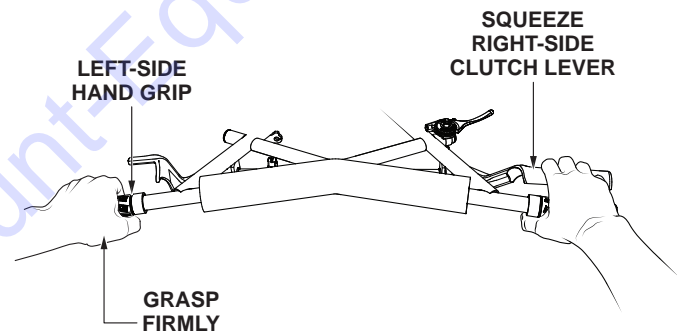

Figure 39. Engaging The Clutch
3. Firmly grasp the **left-side** handgrip, then **squeeze and hold the right-side** clutch lever (Figure 39) to engage the clutch.